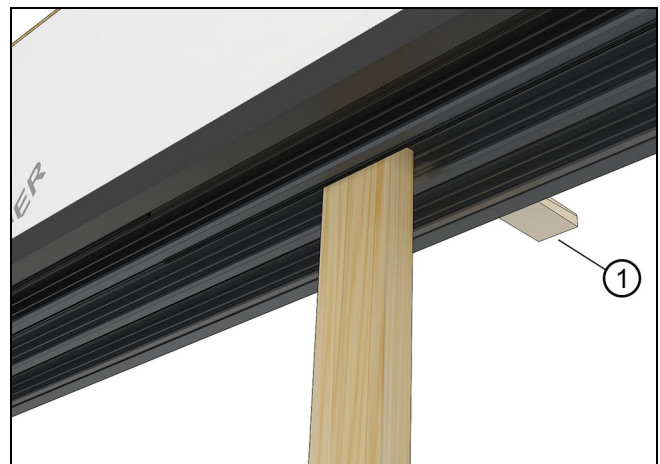
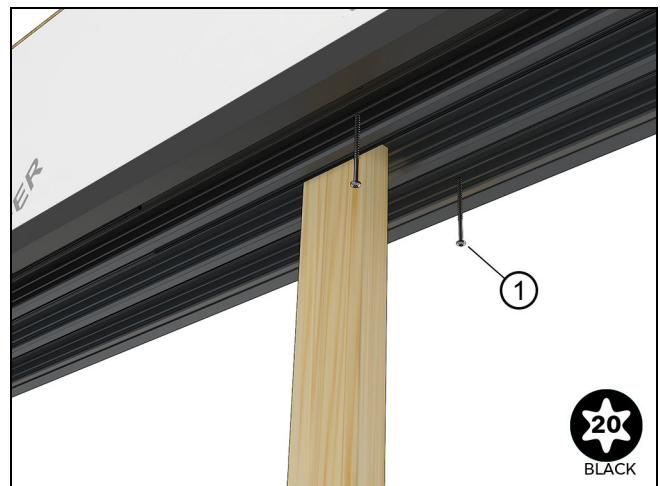

Figure 62
Figure 63
4. Starting at the center, shim and fasten the head jamb with #10 x 3" (76) screws so that a story pole stays in light contact with the sill and head jamb. Repeat this process the entire width. See Figure 62 and Figure 63.